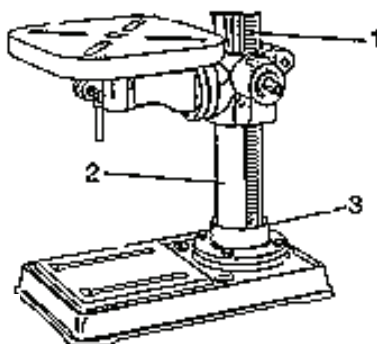

Fig. 5
5. Carefully slide the bench fastening arms and the rack (1) on the column (2) (Fig. 5). Insert the rack lower part in the slot of (3) the column base plate.